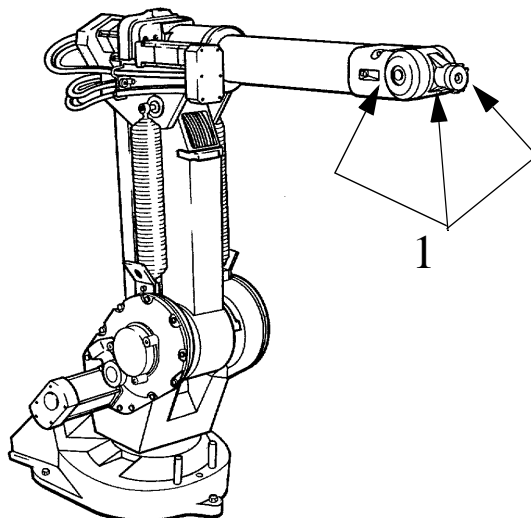

Figure 1 Greasing positions for axes 5 and 6.
Grease is pressed through the 3 nipples (1), see Figure 1. The tip nozzle of the greasing gun should be of type Orion 1015063, or equivalent.